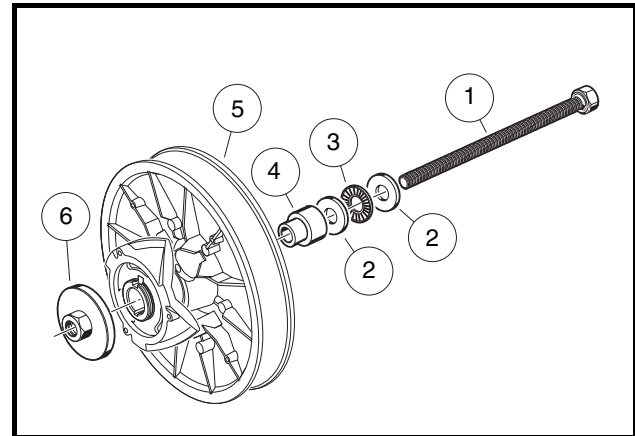

Figure 17-20 Cam Installation Tool
**NOTE:** This process is for field or remote assembly requirements where hydraulic and pneumatic press equipment is not available. Use the Cam Installation Tool (CC P/N 101808401) for this process (Figure 17-20, Page 17-16).
- 5.2.2. Assemble the threaded bolt (1) through the washer (2), the thrust bearing assembly (3), the second washer (2), and the hub guide (4) (Figure 17-20, Page 17-16).
- 5.2.3. Slide the bolt (1) through the clutch body (5) until the threaded bolt, washers, bearing, and hub guide are against the fixed face hub (Figure 17-20, Page 17-16).